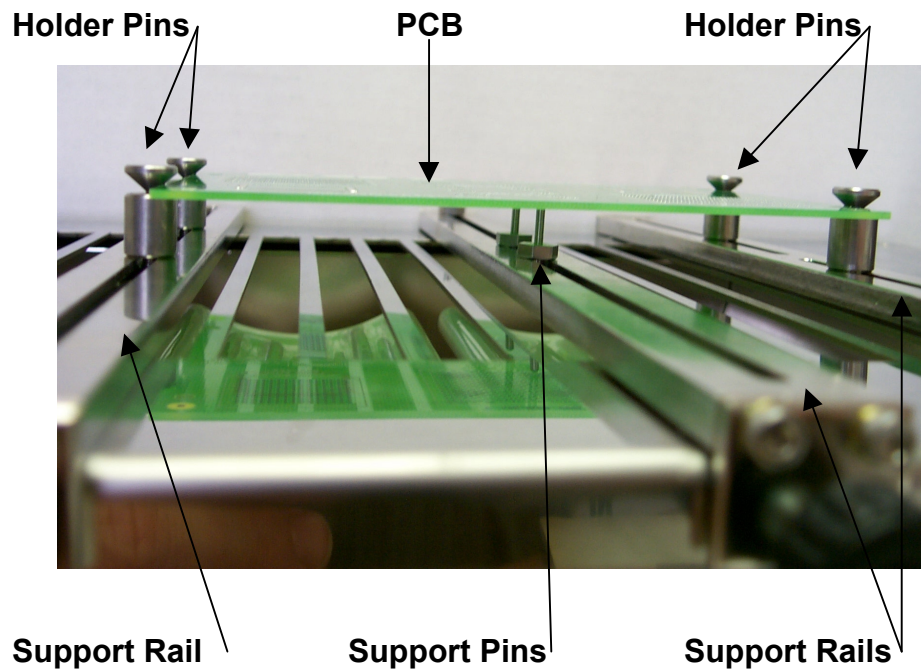

Figure 2.
Refer to Figure 2.
- k. To use the Support Pins (Refer to Figure 2):